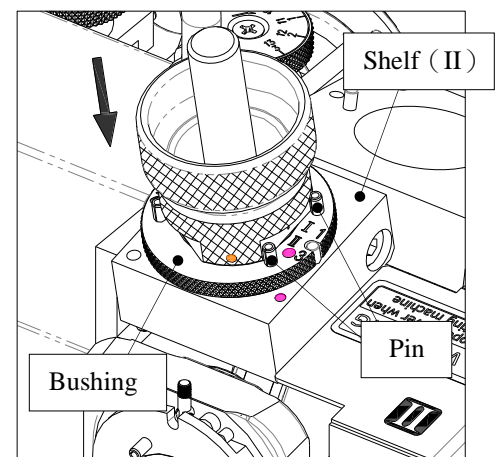

Fig. 17-2
2. 3 Flute End Gash Grinding (II) (Fig. 17-2)
- ① Insert the Chuck set into the bushing on Shelf (II), align Slot No.1 of the Chuck set with the two pins where marked as No.(I · II), gently push the Chuck set into the shelf until the grinding noise stops.
- ② Take out the Chuck set; turn it to Slot No.2, align Slot No.2 of the Chuck set with the two pins on the bushing where marked as No.(I · II), gently push the Chuck set into the shelf until the grinding noise stops, then take out the Chuck set.
- ③ Take out the bushing; turn it by 180° to No.(III), align No.(III) of the bushing with the Pin on the shelf, then insert the bushing into the shelf.
- ④ Insert the Chuck set into the bushing on Shelf (II), align Slot No.3 of the Chuck set with the two pins where marked as No.(III), gently push the Chuck set into the shelf until the grinding noise stops.